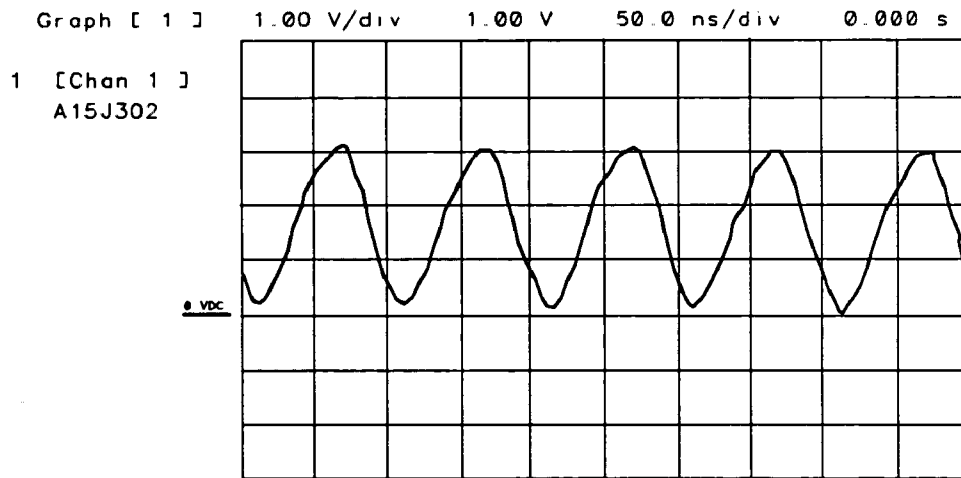

Figure 12-6. 10 MHz TTL Reference at U301 Pin 9
10. Check for a 10 MHz TTL signal at ^{U302}U301 pin 9 using an oscilloscope. (See Figure 12-6).